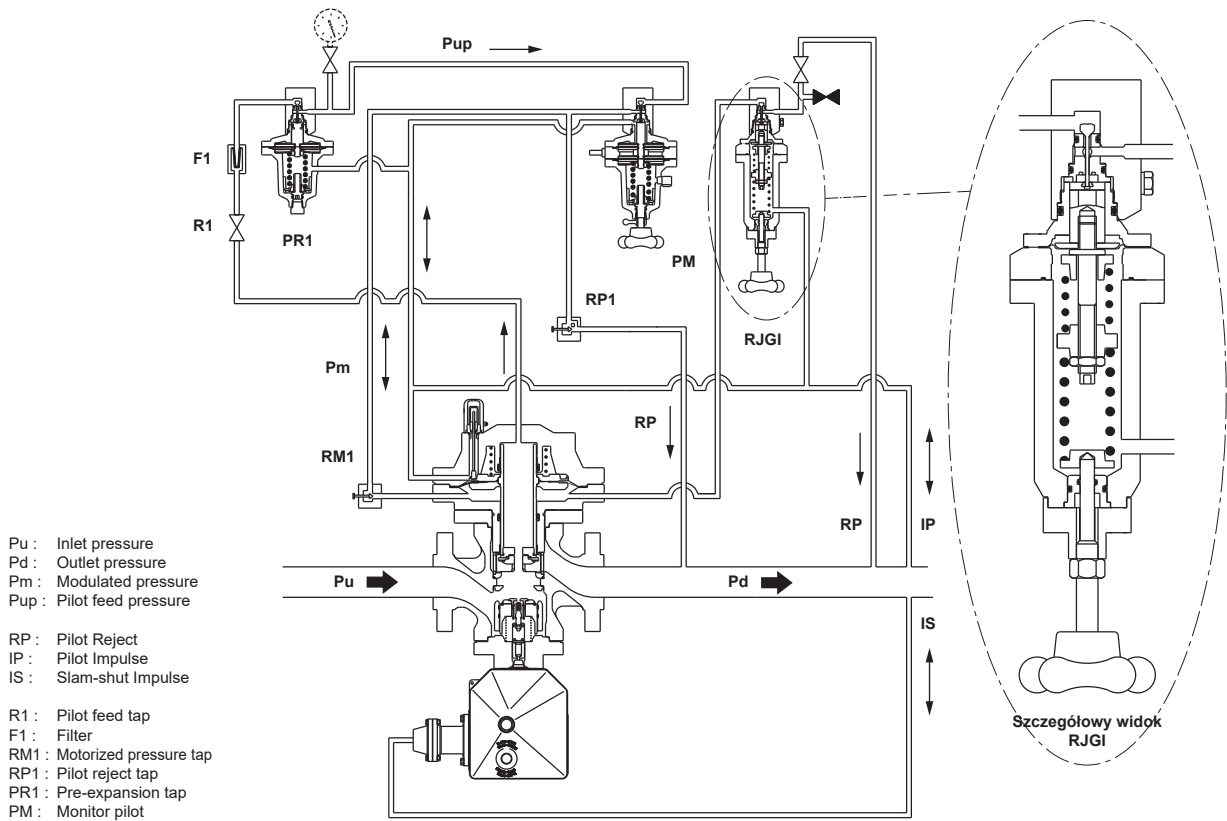

Figure 2. Principle of Operation - Type EZH OS2 Regulator, DN 25 - 50 - 80 with 114DA, 114MD and RJI
RJGI (Accelerator) Figure 2
- Hard trim (Figures 2, 5, 6, 7, 8)